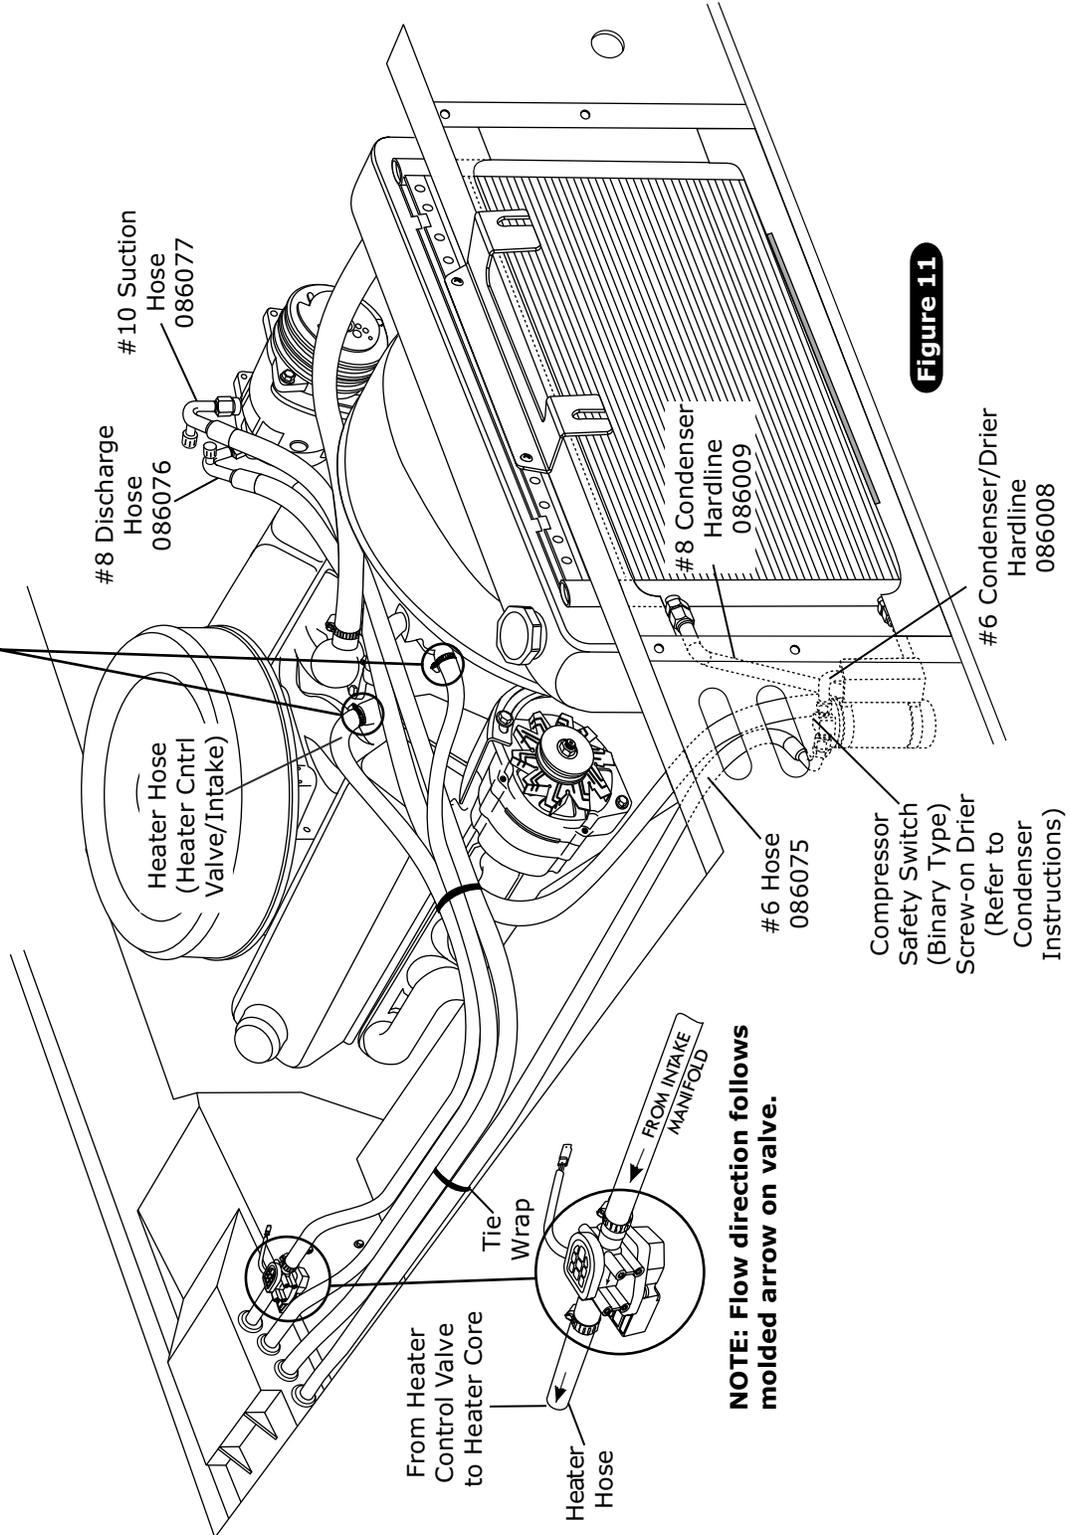

Figure 11
1. Locate the #8 compressor A/C hose. Lubricate (2) #8 O-rings (See Figure 10, above) and connect the 135° female fitting with 134a service port to the #8 discharge port on the compressor. Route the 90° female fitting to the #8 condenser hardline (See Figure 11, Page 13). Tighten each fitting connection as shown in Figure 10, above.
2. Locate the #10 compressor A/C hose. Lubricate (2) #10 O-rings (See Figure 10, above) and connect the #10 135° female fitting with 134a service port to the #10 suction port on the compressor. Route the 90° female fitting to the #10 fitting on evaporator (See Figure 8a, Page 11, and Figure 11, Page 13). Tighten each fitting connection as shown in Figure 10, above.
3. Locate the #6 evaporator A/C hose. Lubricate (2) #6 O-rings (See Figure 10, above) and connect the 90° female fitting to the drier. Route the 90° female fitting to the #6 fitting on evaporator (See Figure 8a, Page 11, and Figure 11, Page 13). Tighten each fitting connection as shown in Figure 10, above.
1. Route a piece of heater hose from the water pump to the top heater fitting of the heater core as shown in Figure 8a, Page 11, and Figure 11, below. Secure using hose clamps.
2. Route a piece of heater hose from the intake to the bottom heater fitting of the heater core as shown in Figure 8a, Page 11, and Figure 11, below. **NOTE: Install heater control valve in line with intake manifold (pressure side) heater hose, and secure using hose clamps as shown in Figure 11, below. Also note proper flow direction.**